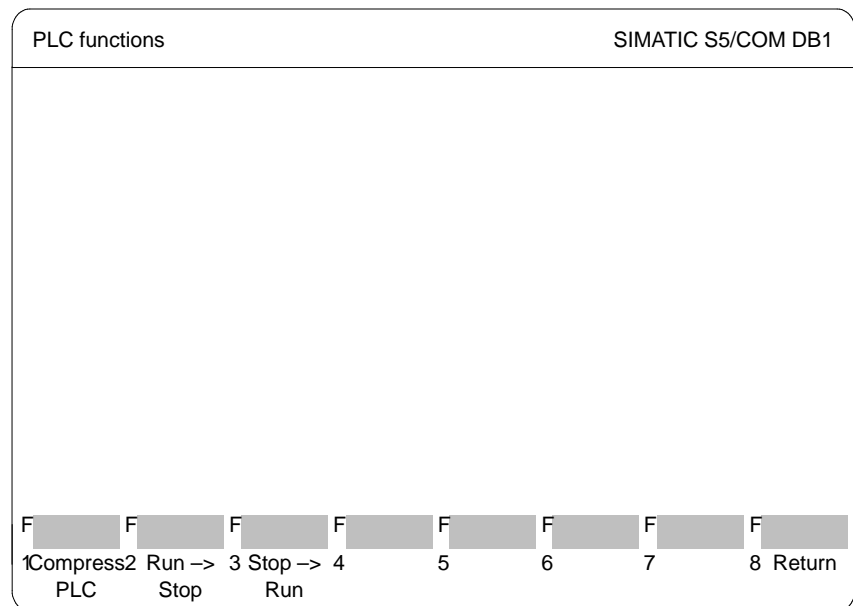

Figure 22-20 COM DB1 *PLC Functions* Dialog
1. Press **F7** = *PLC functions* in the *Overview table* dialog (see *Figure 22-20*). The *PLC functions* dialog appears.